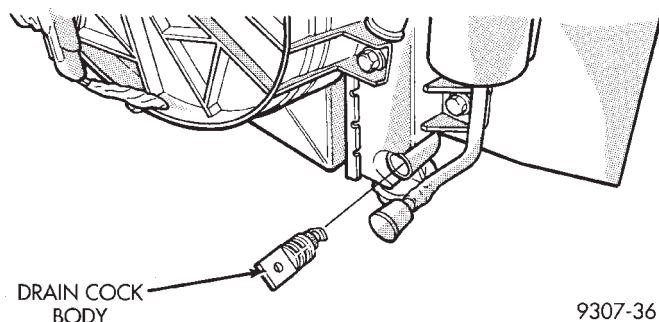

Fig. 33 Draincock—Typical
(1) Turn the drain cock stem counterclockwise to unscrew the stem. When the stem is unscrewed to the end of the threads, pull the stem (Fig. 33) from the radiator tank.